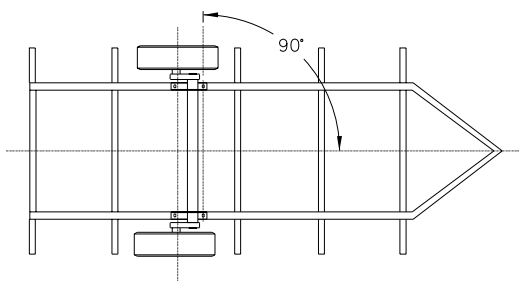

Figure 3
Step 3: Once the method of attachment is decided, the axle(s) must be carefully aligned on the trailer frame. The axle(s) centerline must be perpendicular to the longitudinal centerline of the trailer. See figure 3.